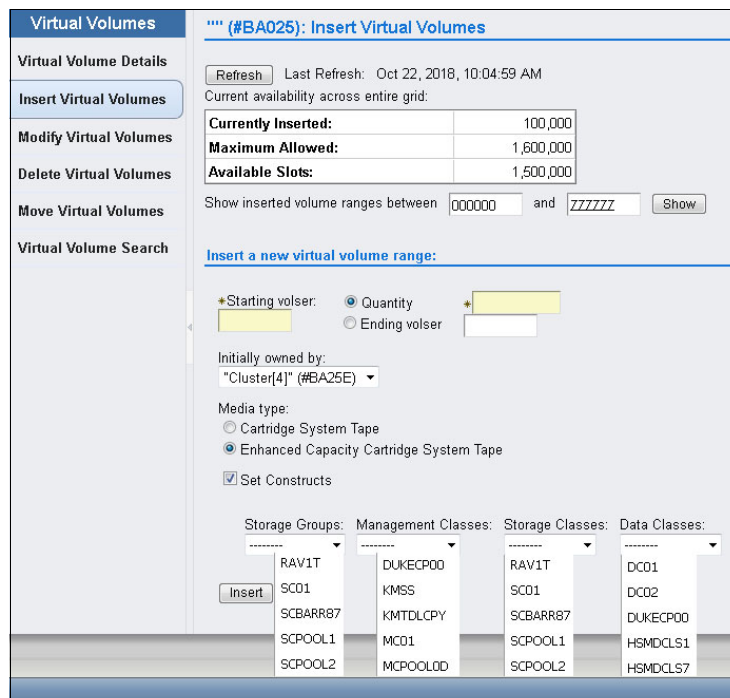

Figure B-5 Insert logical volumes by assigning static construct names
3. On the left side of the MI, click **Virtual** → **Virtual Volumes** → **Insert Virtual Volumes**. The window that is shown in Figure B-5 opens. Use the window to insert virtual volumes. Select the **Set Constructs** option and enter the construct names.